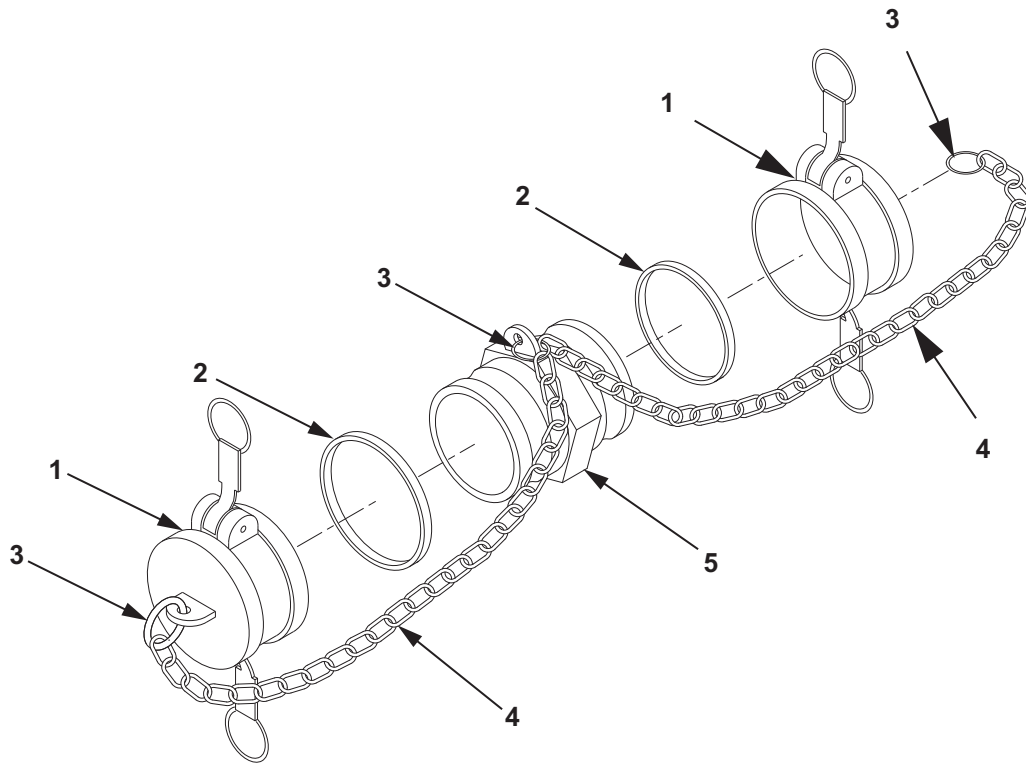

Figure 2. 3 In. Double Male Adapter Assembly.
1. Install split rings (Figure 2, Item 3) on chains (Figure 2, Item 4).
2. Install split rings (Figure 2, Item 3) on two dust caps (Figure 2, Item 1) and 3 in. double male adapter (Figure 2, Item 5).
3. Install two new gaskets (Figure 2, Item 2) into dust caps (Figure 2, Item 1).
4. Install dust caps (Figure 2, Item 1) on 3 in. double male adapter assembly (Figure 2, Item 5).